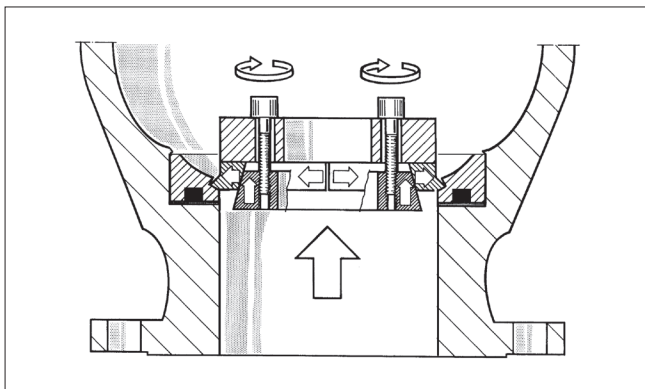

Fig. 15 Removing the locked seat
- Remove the seat from body cap if it is still in place. If the seat is locked, it must be removed using a special tool. See Fig. 15 and Section "Tools".